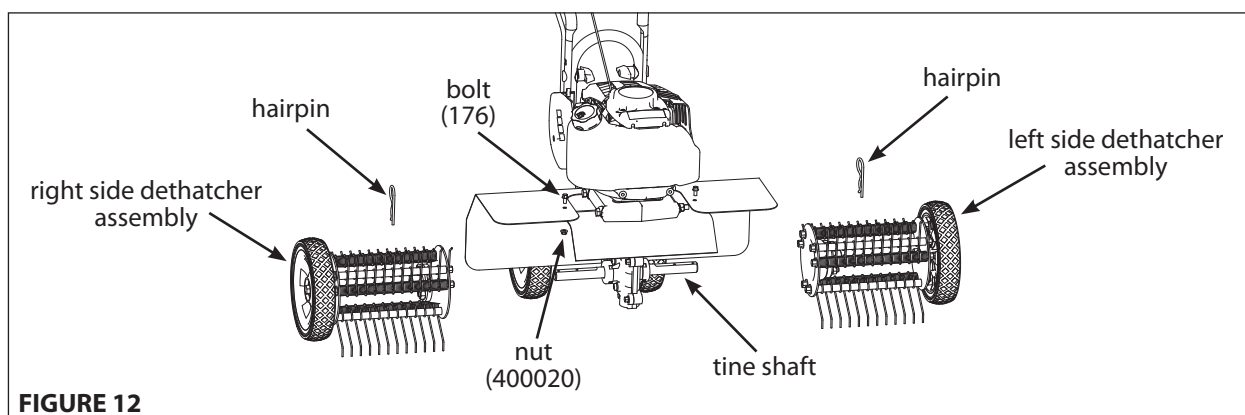

FIGURE 12
5. Slide the Left and Right Dethatcher Assemblies onto the tine shaft making sure the Right Assembly is installed on the right side and Left Assembly is installed on the left side as defined from the user's position. **SEE FIGURE 12**